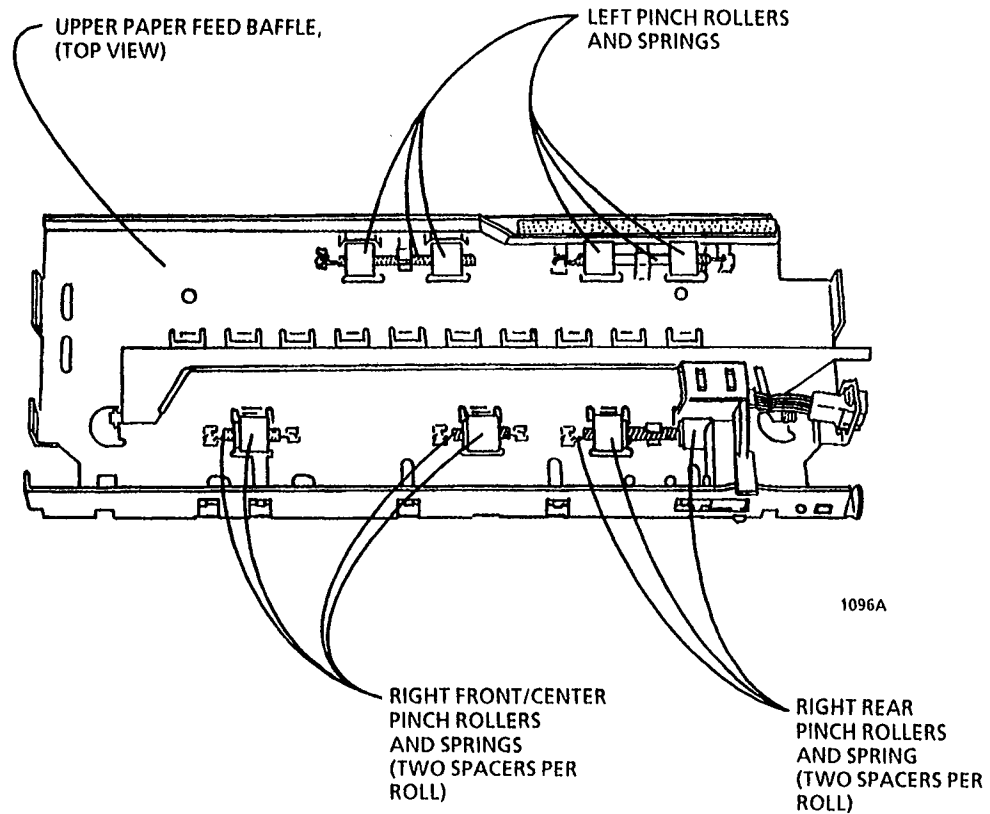

Figure 2. Removing the Pinch Rollers and Springs
4. (Figure 2): Remove the pinch rollers and springs, as necessary.